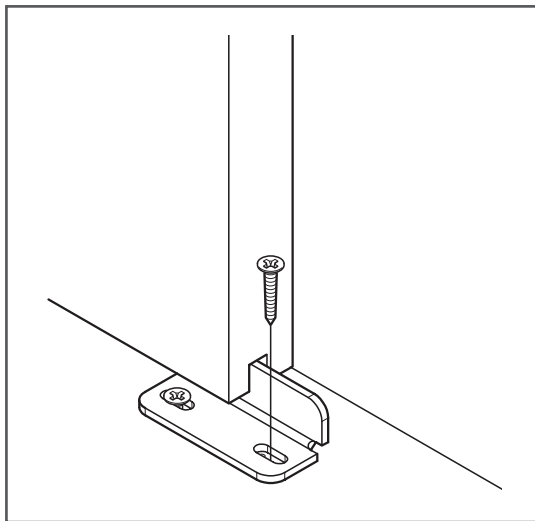

Figure 12
20. Install the second 1" phillips screw (provided) using a drill with a phillips bit (Figure 12).